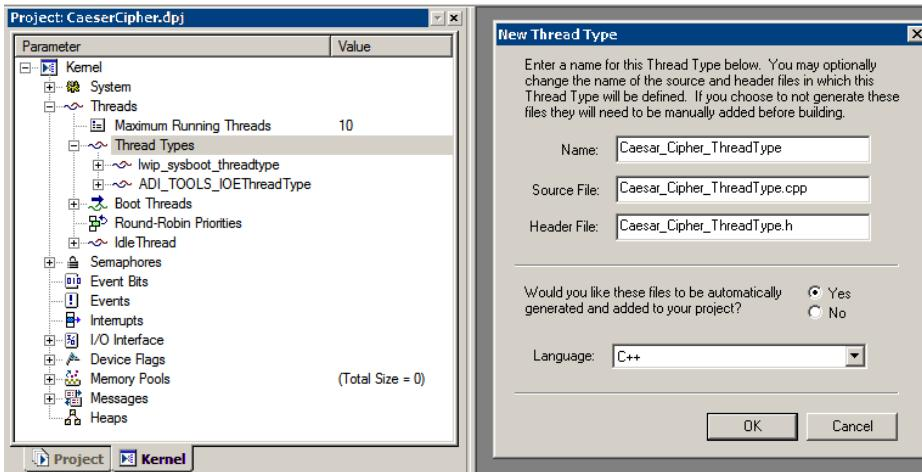

Figure 2-3. New Thread Type
1. From the **Kernel** page of VisualDSP++ Project window, navigate to **Kernel->Threads->Thread Types**. Right-click and select **New** thread type. Type `Caesar_Cipher_ThreadType` in the **Name** field, leave **Source File** and **Header File** as is, automatic source code generation as **Yes**, and leave the **Language** as **C++** (Figure 2-3).